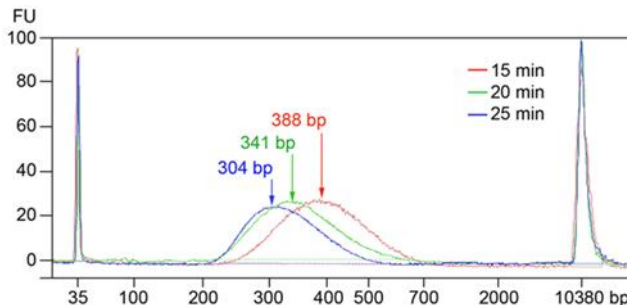

Fig. 2 Incubation time of step 1 at 20°C is inversely correlated with library size.
The incorporation of DNA fragmentation in the kit makes it possible to directly use intact genomic DNA as input DNA without the need of mechanical DNA shearing or enzymatic DNA fragmentation. The library size is inversely correlated with the incubation time of step 1 at 20°C (Fig. 2).
- * Incubation time affects library size. Longer time will result in shorter library size (use Fig. 2 as a reference).